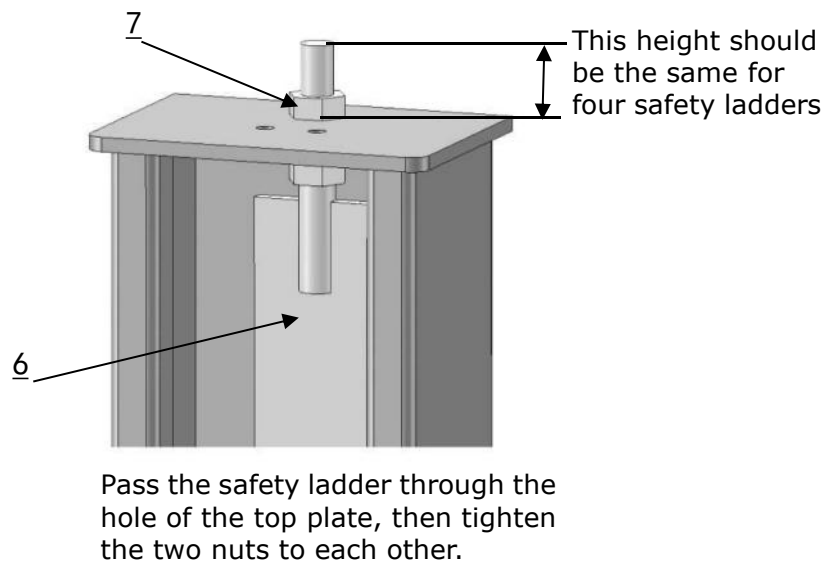

Fig. 18
2. Install safety ladders (See Fig. 18).